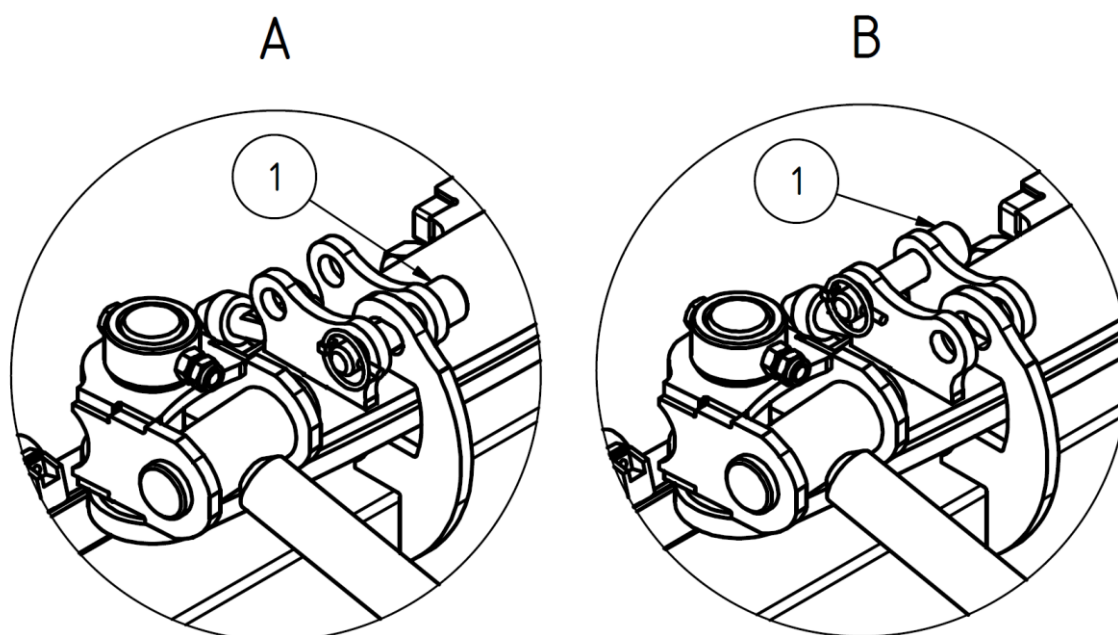

Figure 11 – Locking the front section of the brush
Incline can be locked with the pin (1, Figure 11). Locking is necessary e.g. in case of a longer travel, when the brush is not operated. Locked (A) and unlocked (B) front section of the brush is shown on Figure 11.